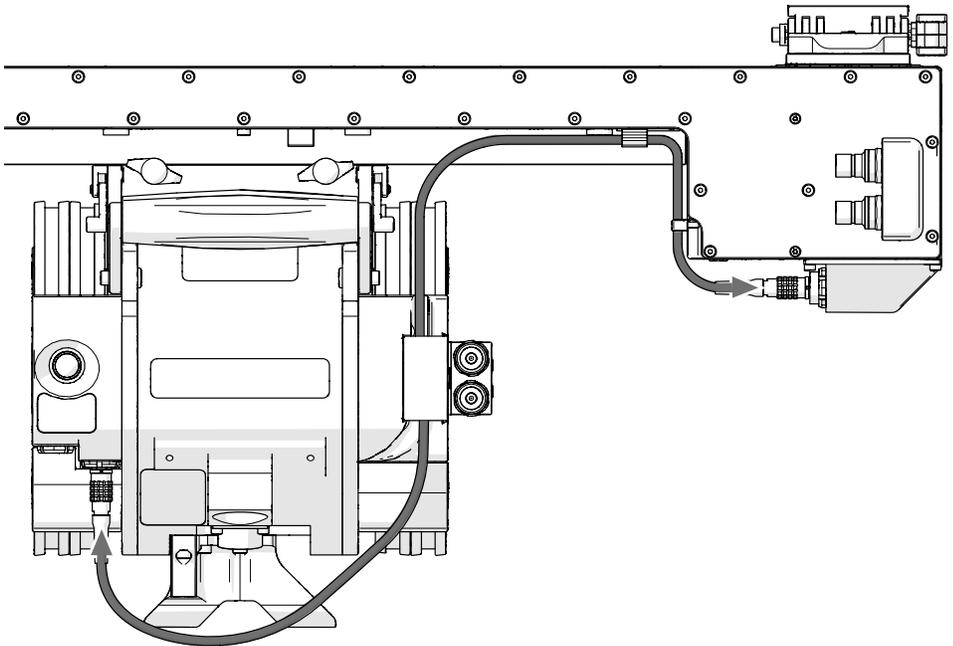

Fig. 35 - Raster arm cable routing
1. Plug the supplied Raster Arm HT cable into the Raster Arm HT's connector (Fig. 35) located on the Raster Arm HT encoder housing. Press the Raster Arm HT cable into the first cable bracket on the side of the Raster Arm HT encoder housing.